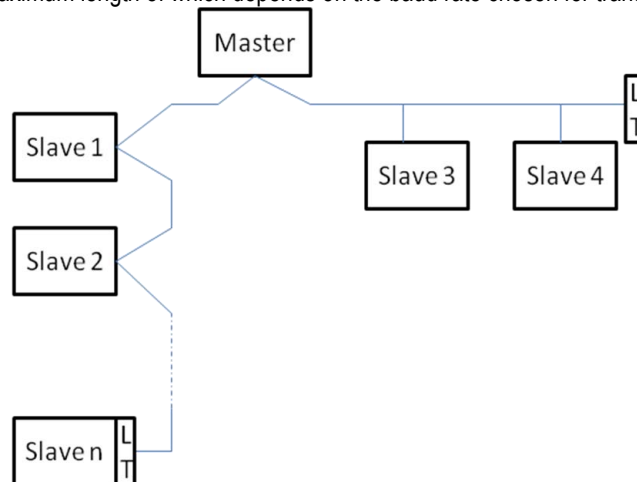

Figure 1: Example of a Modbus network with termination
As shown in Figure 1, it may be necessary to terminate the line at the end and at the beginning with terminating resistors (LT).